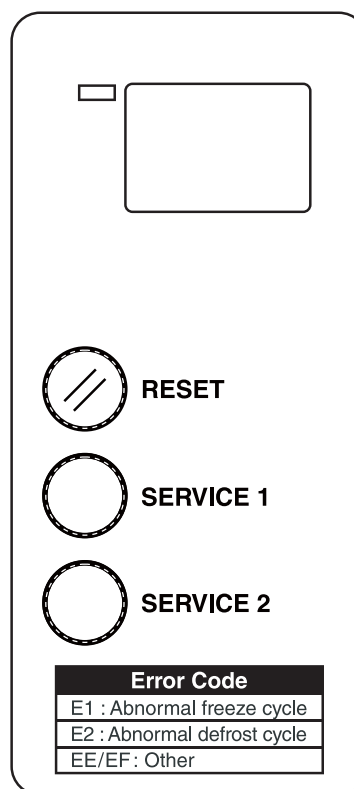

Fig. 6
7) Press the "RESET" button. See Fig. 6. The water tank will start to open.